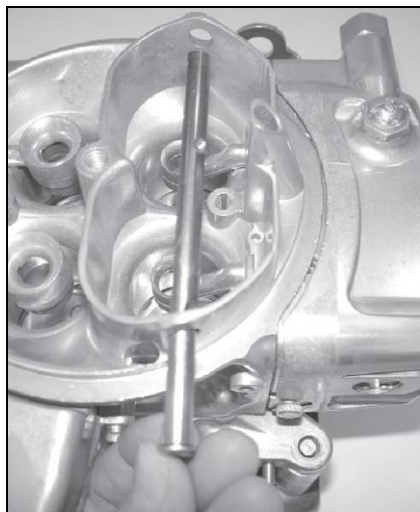

Figure 6
5. Insert the choke butterfly shaft through the choke tower (Fig. 6). Make sure the choke butterfly shaft moves freely before proceeding. If it does not you may need to deburr the hole(s) going through the choke tower or use a 0.316" drill bit to make sure the hole is the proper size.